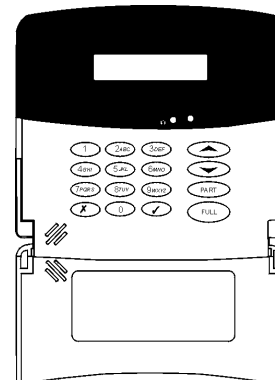

Figure 3: LCD Programming Keypad
7. All registration and test functions, described in the following sections, are performed from the LCD programming keypad shown in Figure 3. Connect the programming keypad to the Programming Keypad connector.